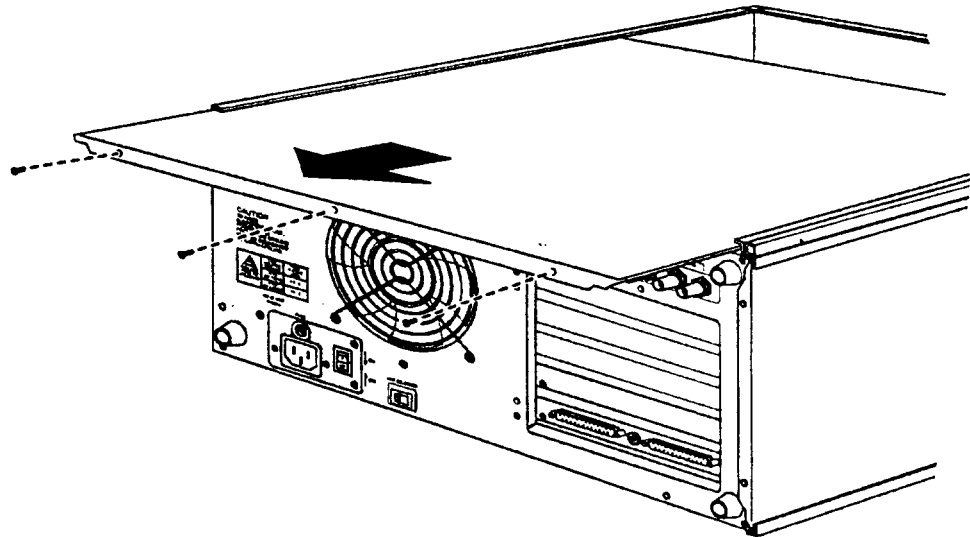

Figure 1: Rear view of the VM700A showing top cabinet removal
1. Remove the top and bottom cabinets from the instrument. Refer to Figure 1.